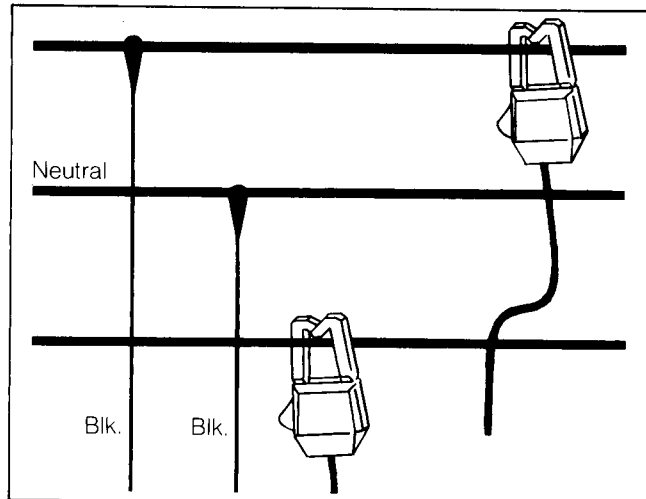

fig. 2
2. Use the single phase voltage cable and connect it across one leg to a neutral (110 V circuit on a 220 V system). See fig. 2.